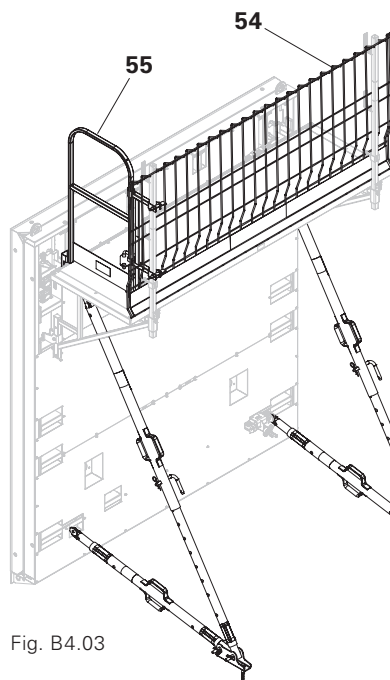

Fig. B4.03
3. Mount Base Plate (92), e.g. with PERI Anchor Bolt 14/20 x 130 (93) (Fig. B4.03 + B4.03a)